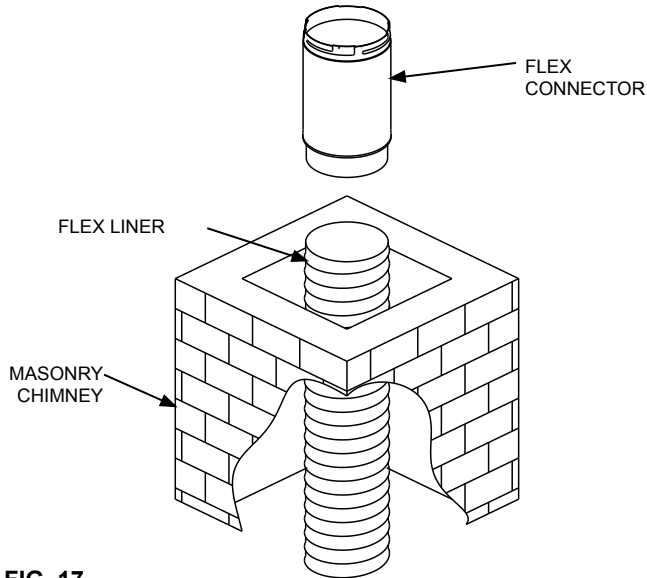

FIG. 17
Step 2: Attach the **P12A** flex connector to the liner and secure with three (3) #8 x 1/2" (M4 x 6 mm) sheet metal screws. (See **FIG. 17**).